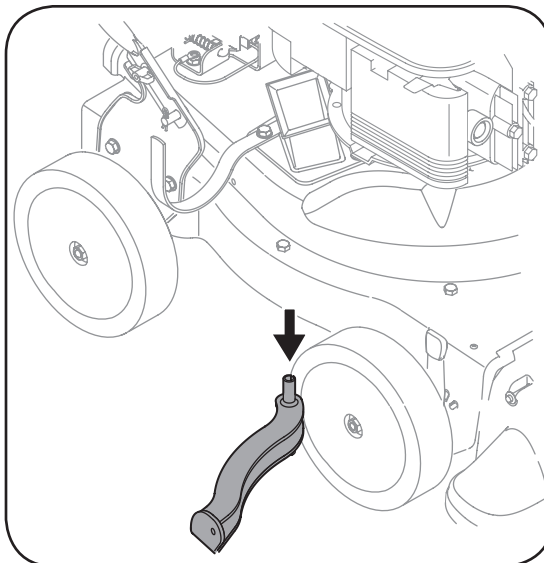

Figure 5-2
6. Remove and clean the screen by scraping or washing with water. See Figure 5-2.